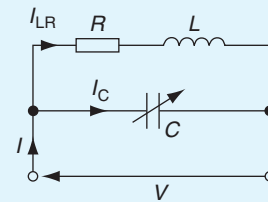

Figure 16.13
- A parallel circuit as shown in Fig. 16.13 is tuned to resonance by varying capacitance C . Resistance, $R = 30 \Omega$, inductance, $L = 400 \mu\text{H}$, and the supply voltage, $V = 200 \text{ V}$, 5 MHz .